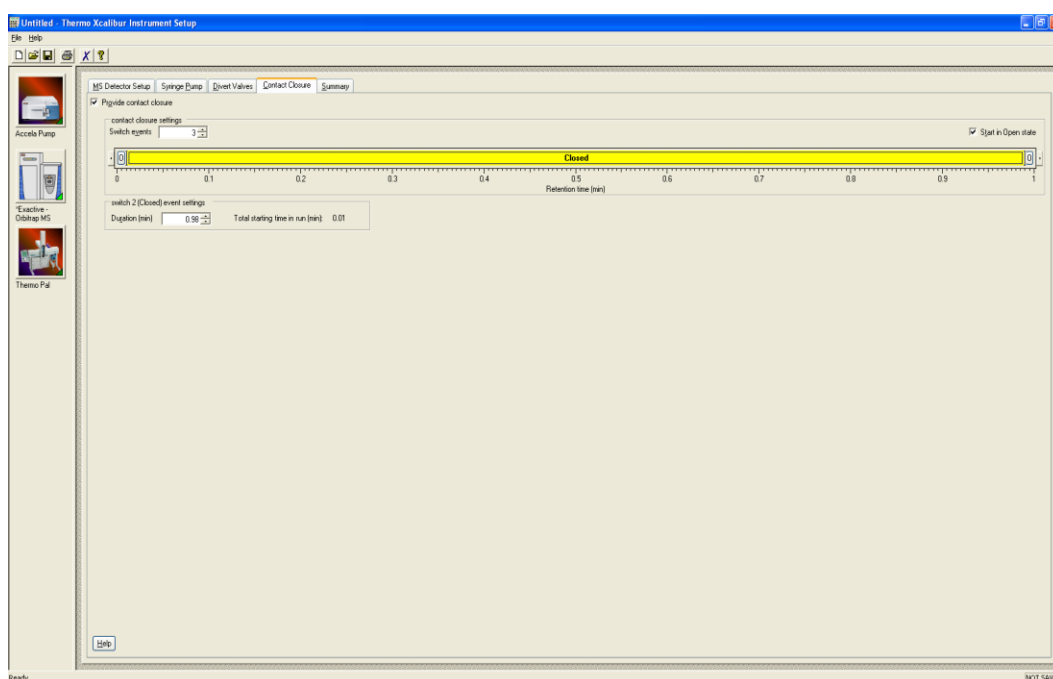
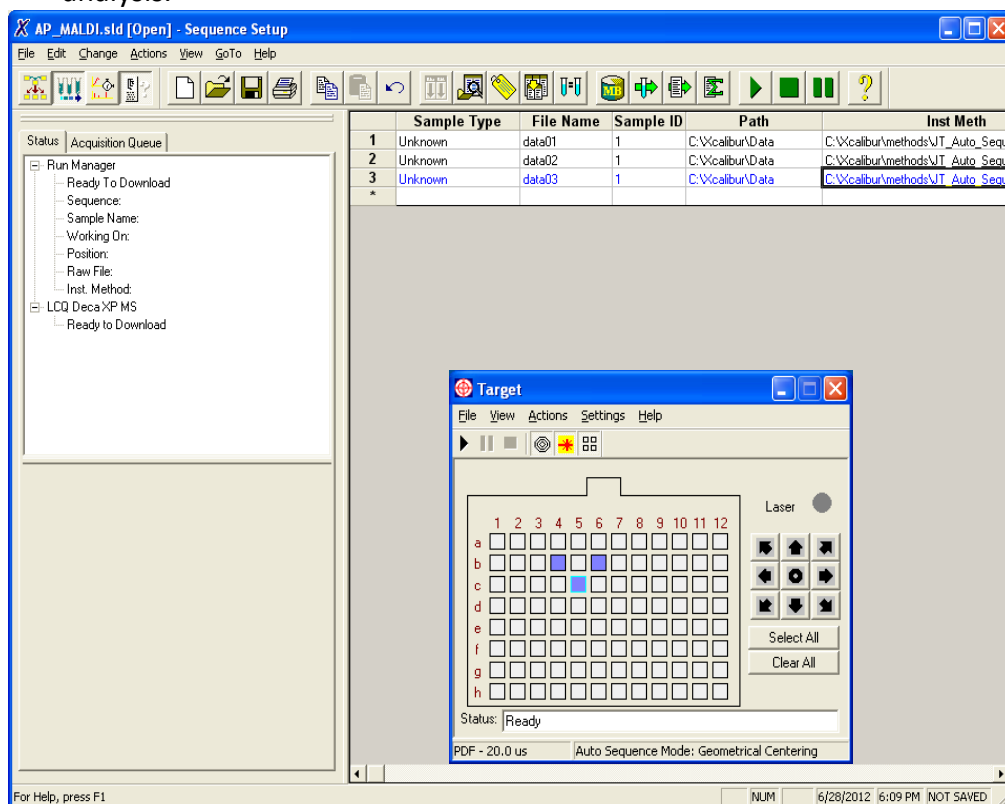

Figure 7.25 Instrument Set Up
Figure 7.26 Xcalibur/Instrument Setup/Sequence Setup and Target
3. The user has the option to create or edit an existing instrument method file. If the user chooses to select an existing file, he/she must open an instrument method file that is appropriate for the user's experiment (see Thermo Xcalibur Software Manual for details). Then, click on the contact closure tab (see Fig. 7.25 below).
Figure 7.25 shows the contact closer when it is configured for the external timing and automated AP/MALDI data recording.
4. Make changes to this page so it looks exactly like that shown in Fig. 7.25 including:
- Save the settings to the instrument method file and close the Instrument Setup Program. These settings ensure that the signals on contacts 1-2 of the “Peripheral Control” connector control the laser firing by the *TARGET* Software. They will be used later during data acquisition. If the user can prepare several different instrument methods for the different types of experiments and experiment durations, he/she must make sure that the contact closure profile for every method looks like it is shown in Fig. 7.25.
- Create the Xcalibur Sequence or open an existing Xcalibur Sequence file (see the ThermoXcalibur Software Manual for specific details). The number of samples in the sequence setup window table (see Fig. 7.26) should correspond to the total number of samples selected for the analysis.
Figure 7.26 shows the sequence setup that is configured for the external timing and automated AP/MALDI 3 sample data recording process.
The lines in the table are run sequentially, and every line in the table corresponds to the sample selected in Target window as they are run one-by-one (Fig. 7.26). Please use the help/sequence setup menu in the Xcalibur/Sequence Setup Program for more details on the creation and editing of the Sequence Setup table. Make sure that all files in the instrumental method column of the table are saved with contact closure settings, which is described in the previous step above in Figure 7.25. The files where the acquired data will be saved are shown in the file name column.
13. After the waiting for the contact closure message is displayed in the sequence setup window (see Fig. 7.26), press the PLAY button in the Target Software window to start AP/MALDI operation.